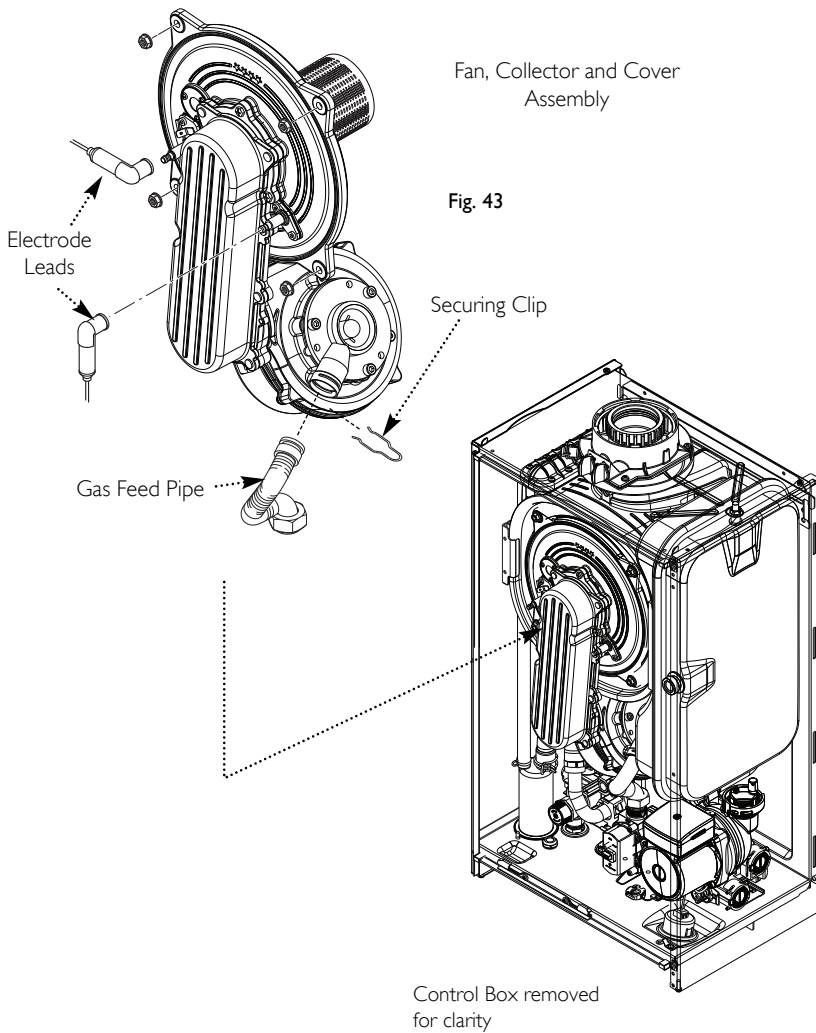

Fig. 43
6. Disconnect the electrode leads, noting their position, and the fan electrical plugs (Fig. 43).
8. Carefully draw the fan, collector and cover assembly forward (Figs. 43).